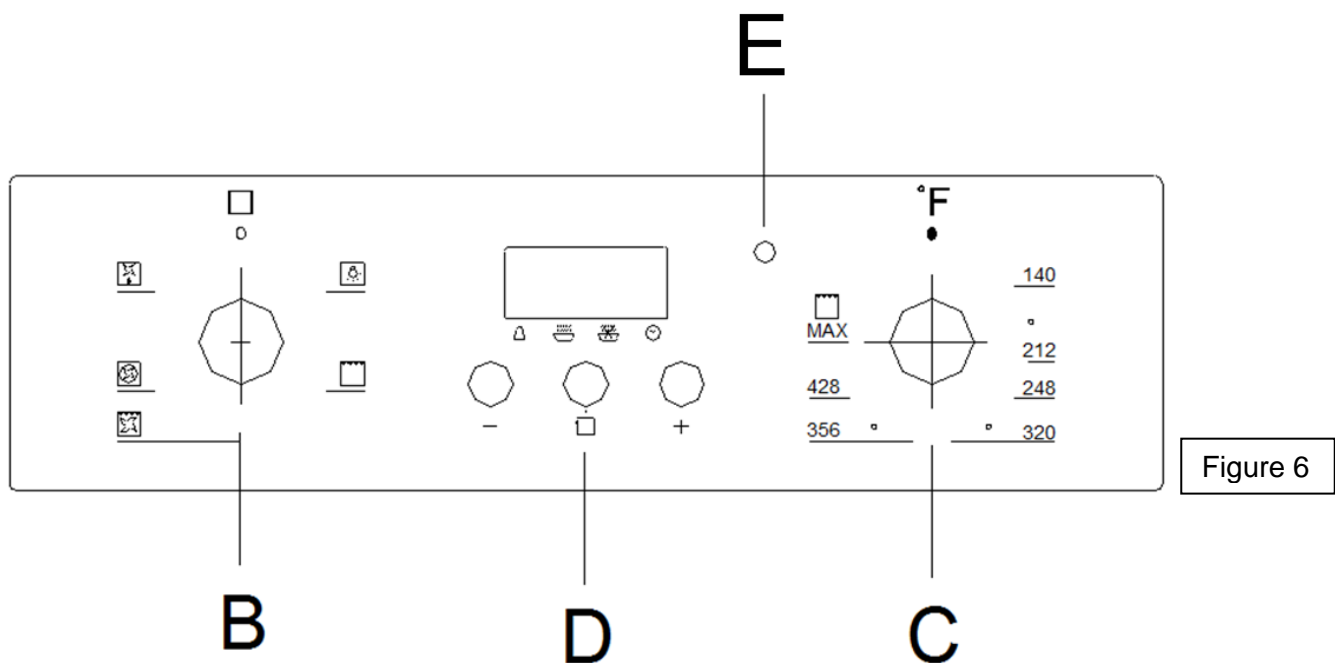

Figure 6
1. Press the function button (See Figure 6) repeatedly until the square symbol above the “” flashes, and press “+” or “-” button to set how long oven needs to cook.
3. Adjust Knob B and C (See Figure 6) to select cooking mode and temperature mode.
2. Press the function button (See Figure 6) repeatedly until the square symbol above “” is flashing, press “+” or “-” button and set the timer for how long the oven needs to cook.
4. Adjust Knob B and C (See Figure 6) to select cooking mode and temperature mode.
2. Press the function button (See Figure 6) repeatedly until the square symbol above “” flashes, press “+” or “-” button and set the time for oven to stop cooking.
- **Position Knob C to MAX.** (See Figure 6)
- **Position Knob C between 60°C and 200°C.** (See Figure 6)
- **Position Knob C between 60°C and 250°C.** (See Figure 6)
- **Position Knob C to any temperature.** (See Figure 6)
1. **Position Knob B to select**  . (See Figure 6)